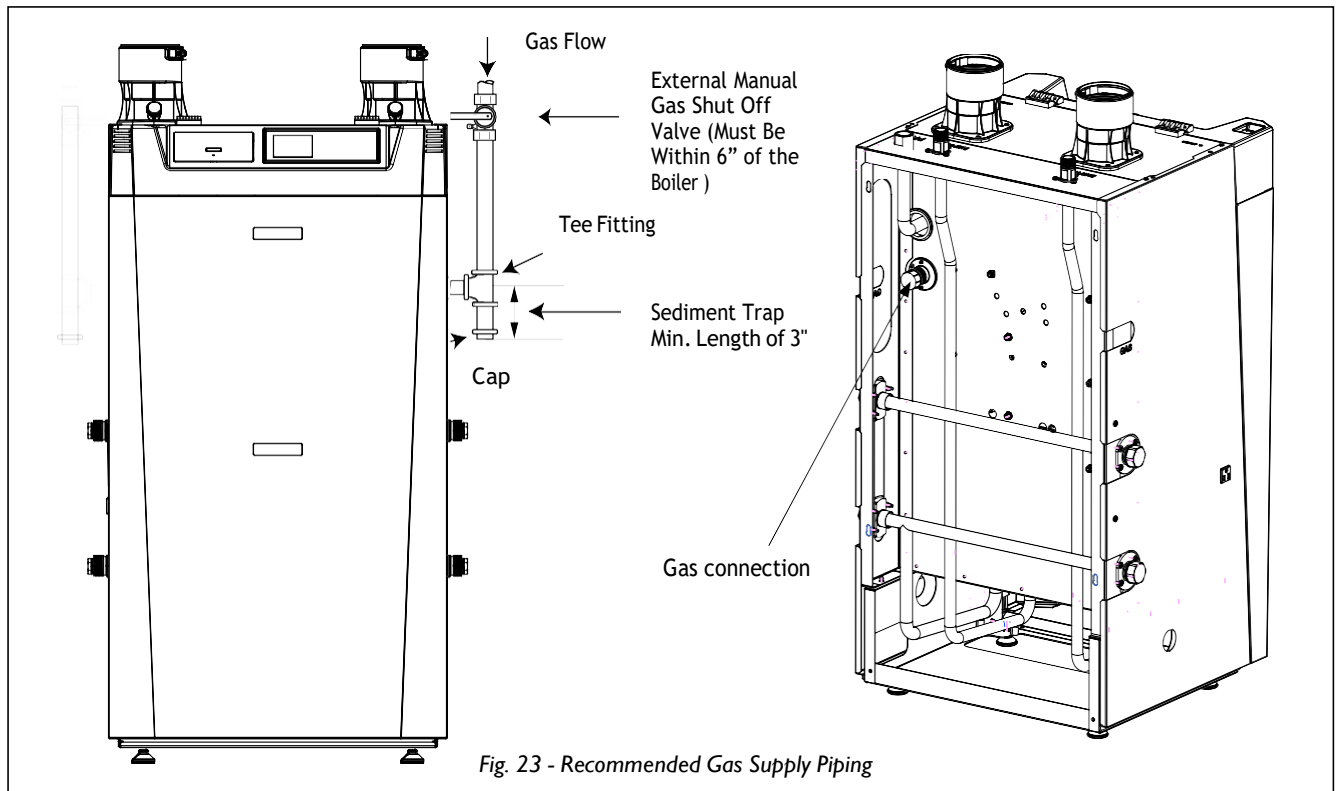

Fig. 23 - Recommended Gas Supply Piping
2. Install a manual shutoff valve in the gas supply piping as shown in Fig. 23 above. For installations in Canada, the installer must tag and identify the main shutoff valve.
3. Install a sediment trap (drip leg) on the gas supply line prior to connecting to the Instinct FSB gas train as shown in Fig. 23 above.